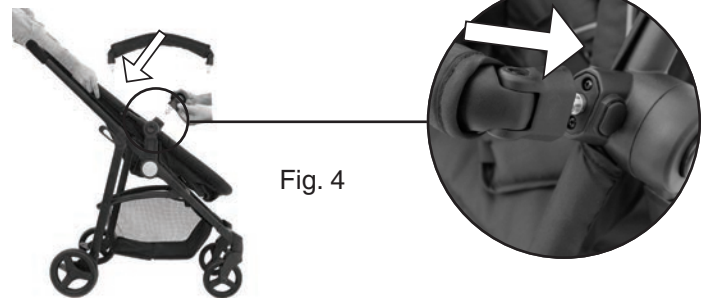

Fig. 4
- **To install child bar:** Align the child bar with the fitting on the frame and push inwards until you hear a 'CLICK'. Child bar is properly inserted when safety release buttons are in the raised position (Fig. 4).